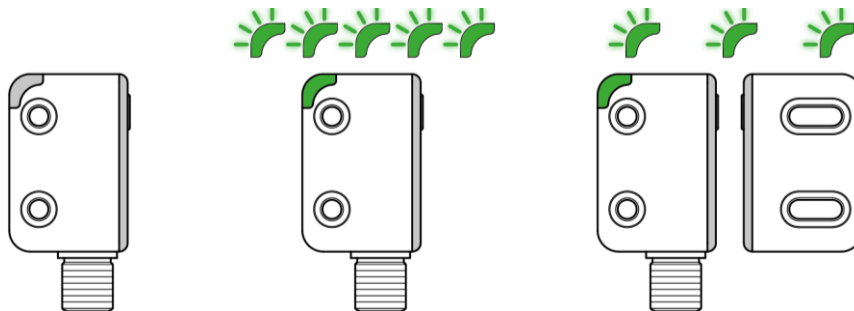

Figure 39 - Teach-in signals
- Power on the R-Safe RFID sensor (Figure 39, condition A).
- After power on, the sensor will be ready for pairing with the actuator (Figure 39, condition B).
- When the actuator is approaching the RFID sensor at a distance $\leq 2\text{mm}$, the sensor is programmed after 5 seconds (Figure 39, condition C).